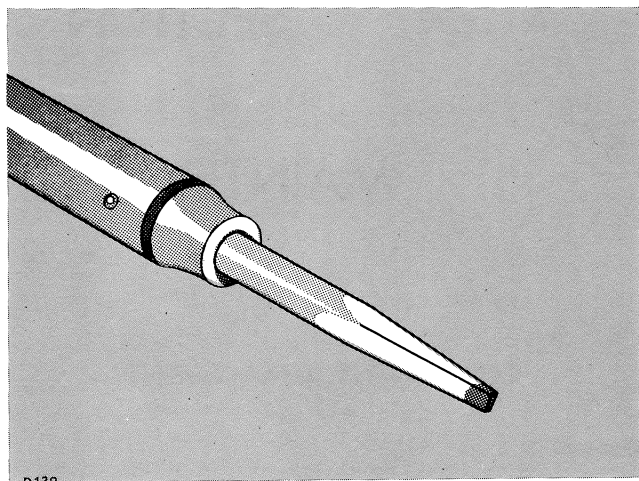

Fig. 6-1. Soldering iron tip properly shaped and tinned.
Because of the shape of the terminals on the ceramic strips it is advisable to use a wedge-shaped tip on your soldering iron when you are installing or removing parts from the strips. Fig. 6-1 will show you the correct shape for the tip of the soldering iron. Be sure to file smooth all surfaces of the iron which will be tinned. This prevents solder from building up on rough spots where it will quickly oxidize.
2. Prepare the tip of the iron as shown in Fig. 6-1.